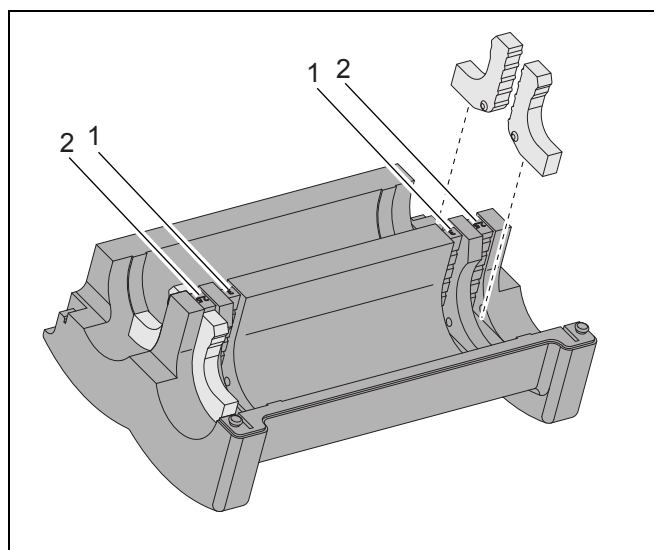

Fig. 11 Inner insulation
- install the reducing inserts in the outer recesses (fig. 11, [2]).
- install the reducing inserts in the inner grooves (fig. 11, [1]).